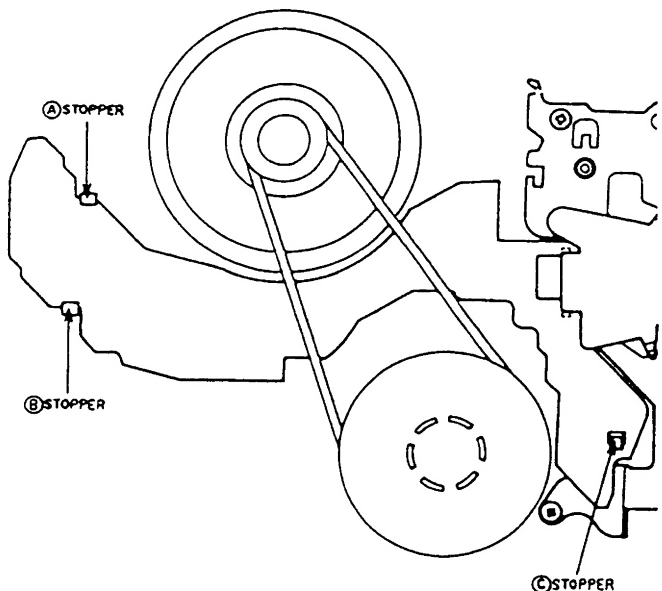

Fig. 3-6
- 1) Disconnect the connector P303 on the MAIN (A) PCB.
- 3) Release the (A), (B) and (C) stoppers as shown in Fig. 3-6. Then remove the SENSOR PCB.